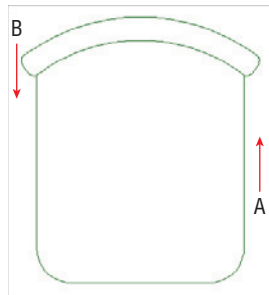

FIGURE 7.4 Blending between concentric arcs
14. Press Enter to repeat the BLEND command, and select the two arcs near the right endpoints; another spline object is created (see Figure 7.4).
15. Click the Stretch tool in the Modify panel, click points A and B shown in Figure 7.4 to create a crossing window, and press Enter. Click an arbitrary point on the drawing canvas as the first point of the Stretch operation. Move the cursor downward on the drawing canvas, type 3" (or 7 cm for metric), and press Enter. The seat depth is reduced.